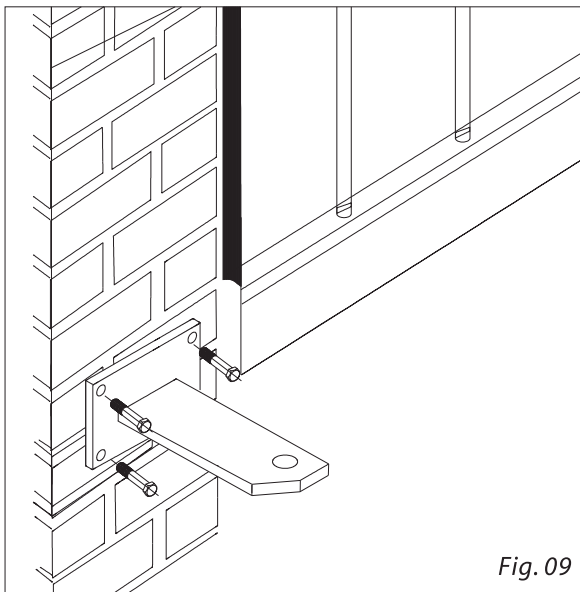
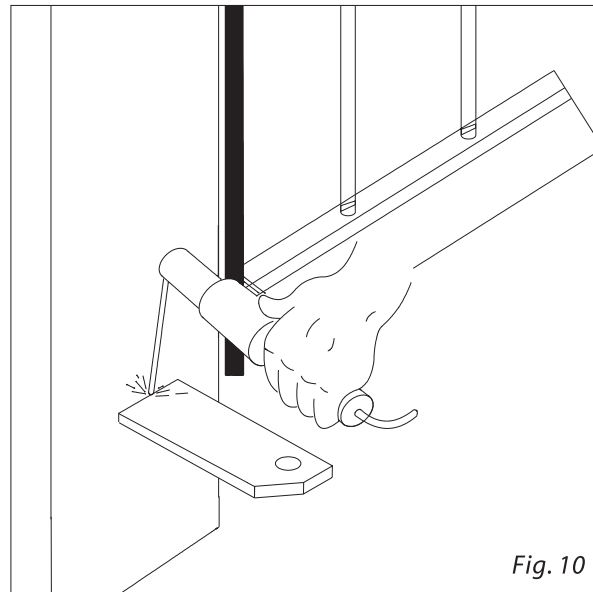

Fig. 09
Fig. 10
1) Fix the rear bracket in the position determined before. If the pillar is in iron, carefully weld the bracket directly to the pillar (Fig.10). If the pillar is in masonry, use suitable accessories to fix the motor to the wall (fig.09) using the provided screws. During the fastening operations, check if the bracket is perfectly horizontal using a level.